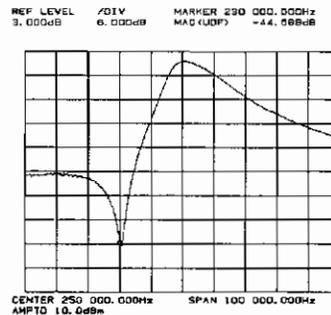

Figure 4-3. Input 250 kHz Filter Frequency Response
- q. Move the 10:1 probe to A1TP4. The HP 3577A display should be similar to that shown in Figure 4-3.